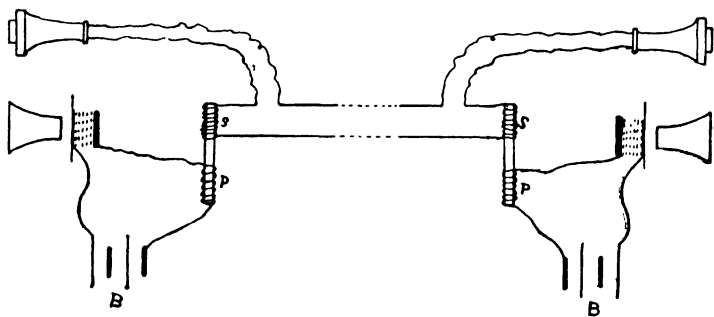

FIG. 17.
**The Line.**—The arrangement of both transmitter and receiver for two stations is shown in Fig. 17. Here as will